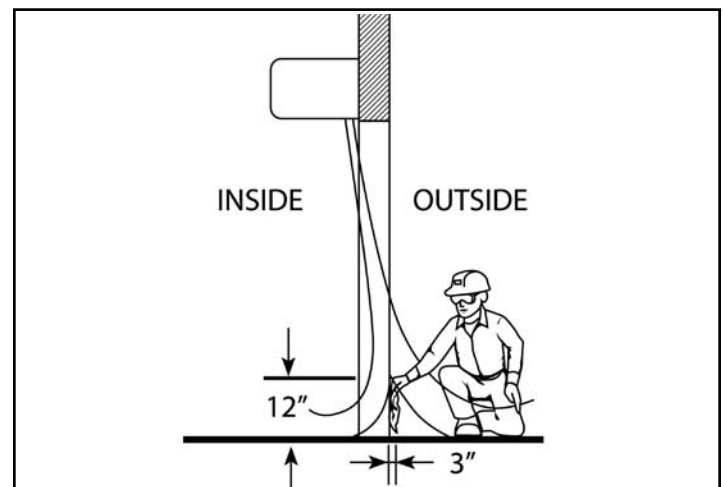

FIGURE 11 - Air Stream Split
- B. Find the air stream split location. Hold a handkerchief by its corners, approximately 12" above the floor. Gently move the handkerchief back and forth in the doorway. Make sure the air is being directed to both the inside and the outside. See Figure 11. The split location is indicated where the handkerchief is vertical with minimal or no fluttering.